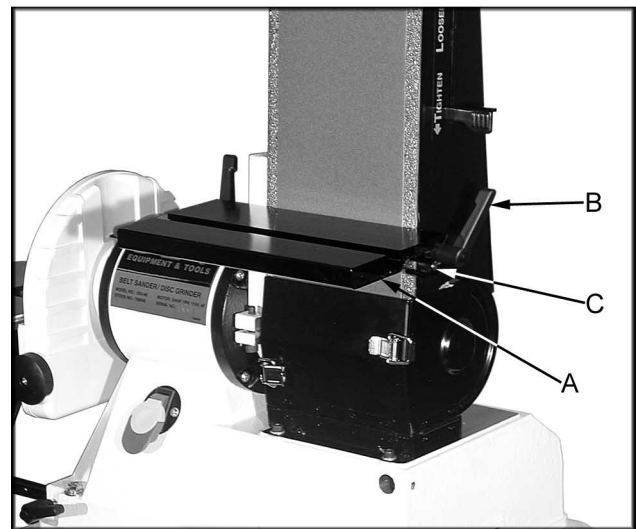
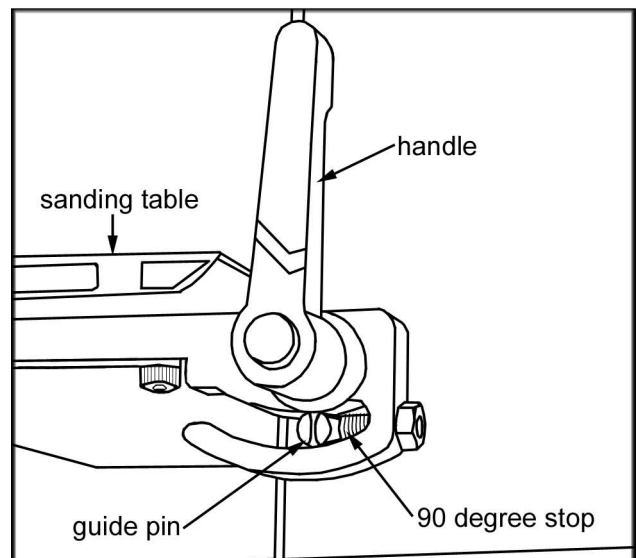

Fig. 2
Fig. 3
3. Mount the sanding belt table (A, Fig. 2) to the sander with two 5/16"x1-1/4" locking handles (B, Fig. 2), two 5/16" flat washers. The handle stud needs to go through the upper slot, and the guide pin (C, Fig. 2 & Figure 3) located on the sander should rest in the lower slot.